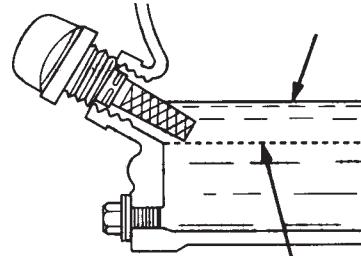

Figure 4. Engine Oil Dipstick (Oil Level)
4. If the oil level is low (Figure 4), fill to the edge of the oil filler hole with the recommended oil type (Table 3). Maximum oil capacity is 0.63 quarts (0.60 liters).